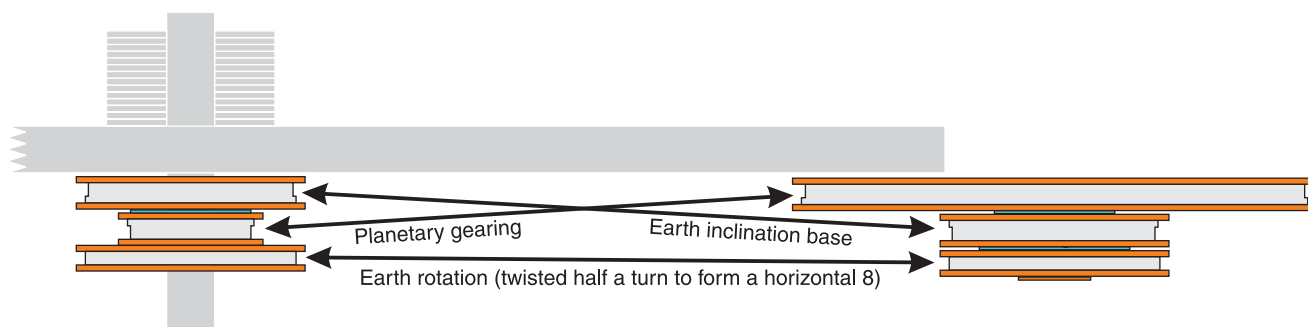

Figure 12: Drive belt installation below the ecliptic disc
**Step 79:** Install the planetary gearing on the ecliptic disc rim. Pull one of the two smaller, thin rings onto the earth inclination driving wheel, which is connected to the underside of the ecliptic disc. Then pull the belt on the second runner from the bottom on the planetary gearing; this one is connected to the earth inclination base. Lay the other, smaller ring on the small groove wheel at the top of the central shaft and pull it on the large planetary gearing runner. Be aware that these two belts change levels as they run from driving wheel to runner; they cross over when looked at from the side (see fig. 12).